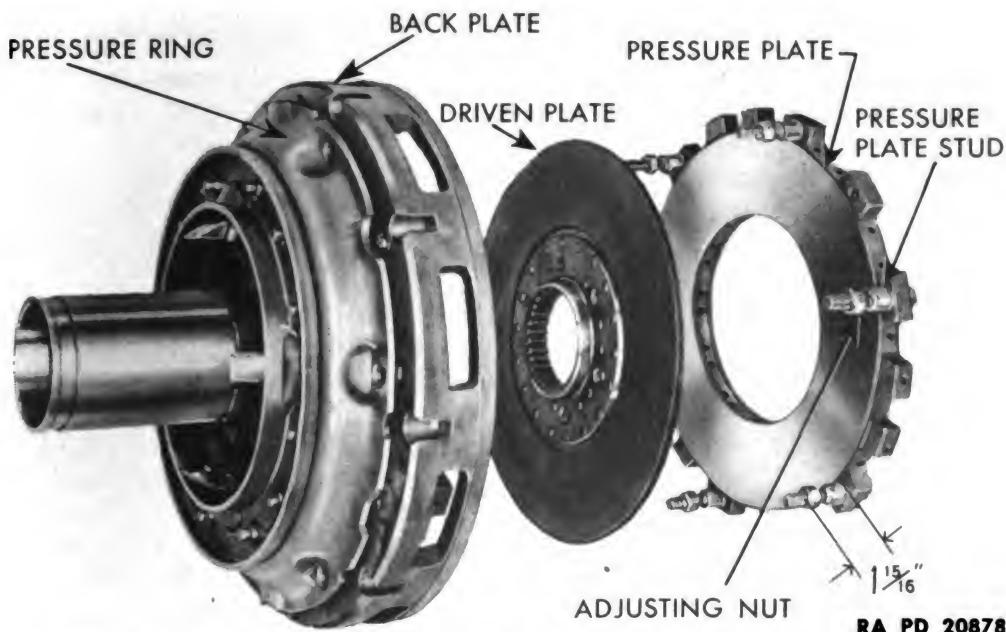

Figure 148 — Clutch Pressure Plate Removed from Pressure Ring
c. Remove Clutch Pressure Plate. Using pressure plate equalizer spring compressor tool (41-C-2555-900) and long-nose pliers, remove three U-washers from equalizer pin (fig. 147). Remove three equalizer spring cap washers, spring, and plain washer from pin. Working from pressure ring side of clutch (fig. 148), remove six outer ring adjusting nuts from studs. Lift pressure plate with studs and driven plate out of back plate.
e. **Install Pressure Plate** (fig. 148). Place one clutch driven plate, with oil slinger facing out, in back plate. Before installing pressure plate be sure that faces of six adjusting nuts are set $1\frac{15}{16}$ inches from lug on pressure plate (fig. 148). Install pressure plate in position in back plate. Install six adjusting nuts on pressure plate studs finger-tight.